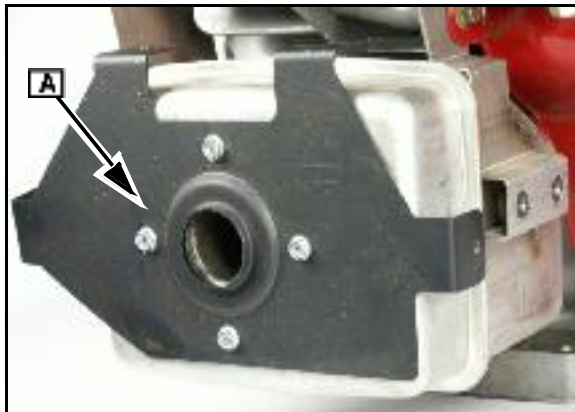

Fig. 18
4. Torque manifold bolts ([A] Fig. 18) to listed values. **SEE SECTION 14- ENGINE SPECIFICATIONS.**
5. Torque bracket bolts ([B] Fig. 18) to listed values. **SEE SECTION 14- ENGINE SPECIFICATIONS.**